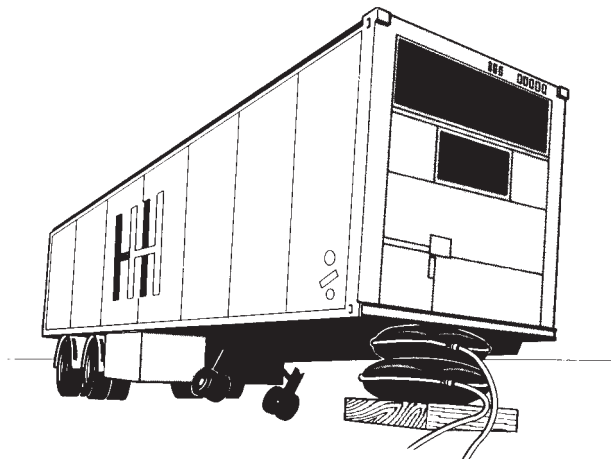

Figure 1
- The inflatable jack must always be next to the load being lifted to help prevent slippage. If needed, suitable cribbing should be placed under the inflatable jack for stability. Never place anything between an inflatable jack and the load except protection to prevent sharp objects from penetrating the jack. See Figure 1.
- For control and stability of the load when stacking a MAXIMUM of two inflatable jacks, always inflate the lower jack first until contact is made with the load. Then inflate both jacks evenly. See Figure 1.